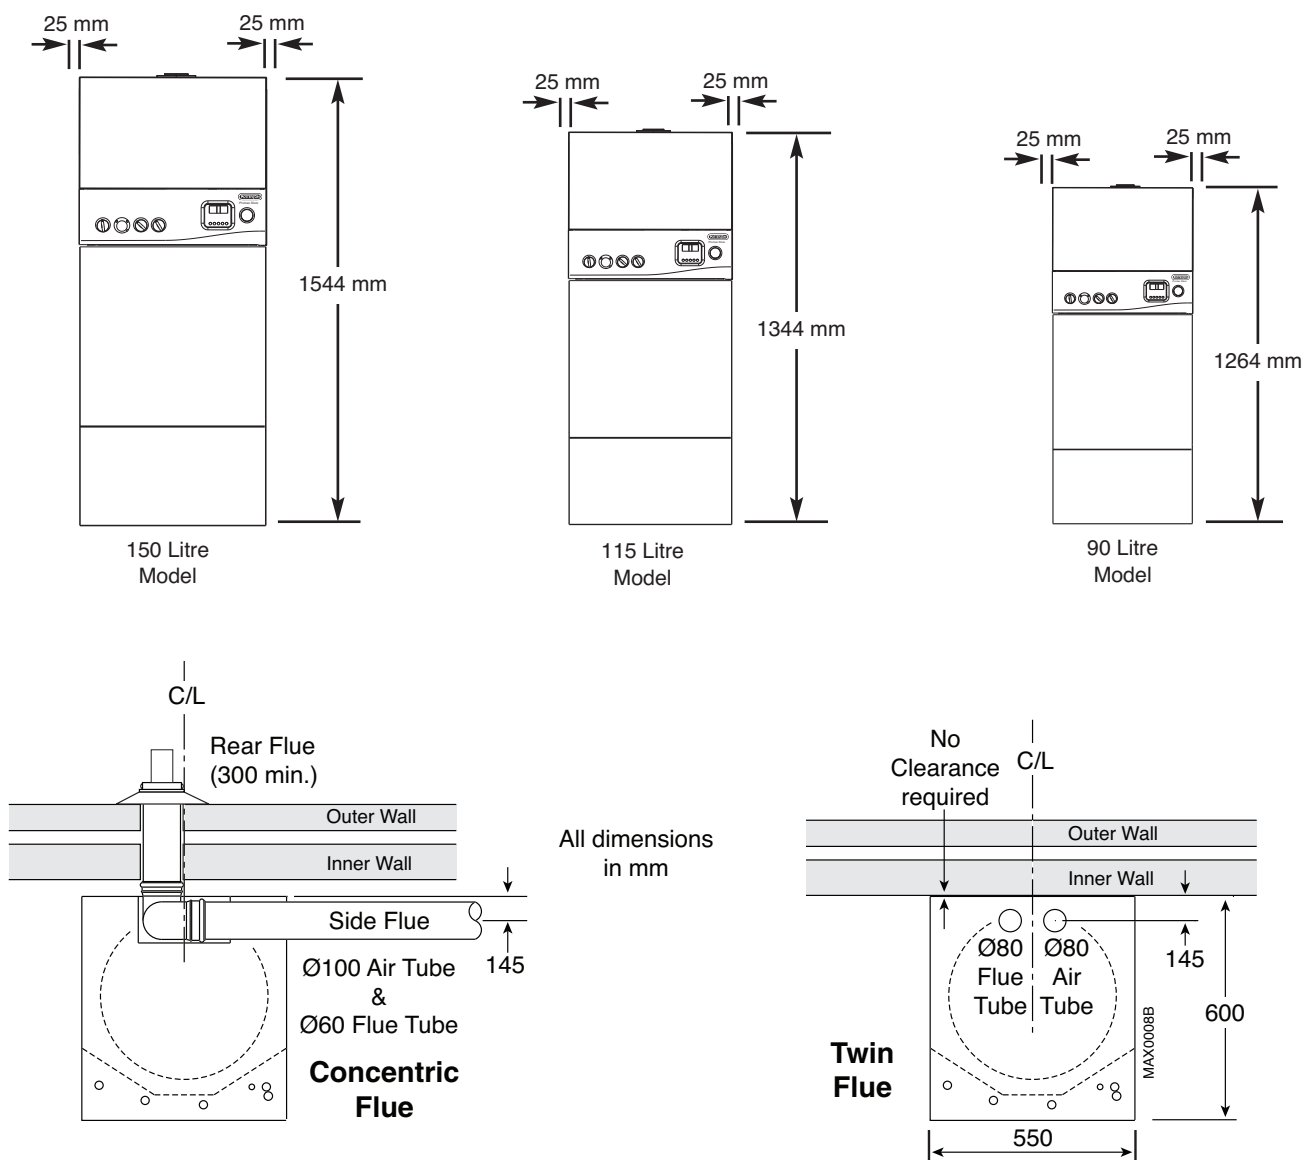

Fig. 3
2. Minimum clearances are indicated in Fig.3. A full height compartment door must be at least 15 mm from the front of the boiler and provide 200 mm access height above the boiler.